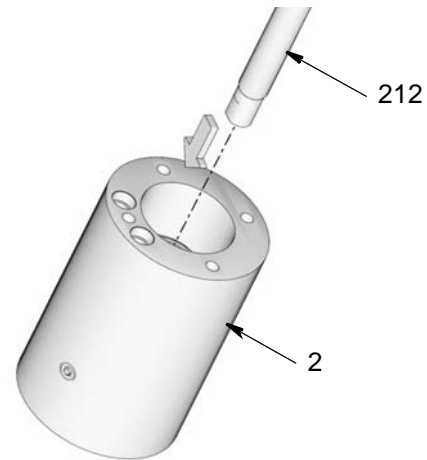

FIG. 37
4. Apply a thin layer of grease to the surface of displacement rod (212). Slide rod into the pump adapter (2) in the direction shown in FIG. 37 only.